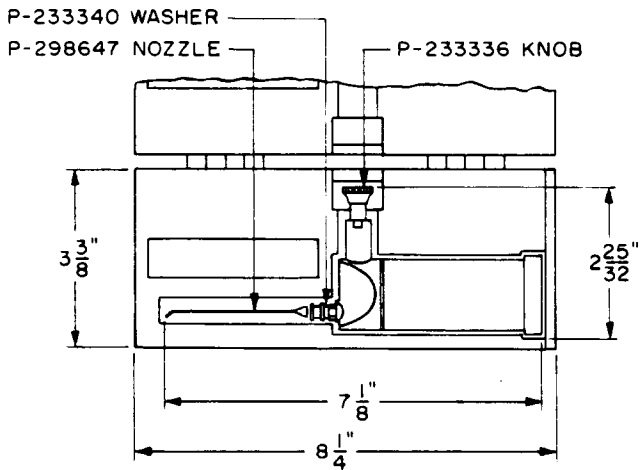

Fig. 4—552A Oil Gun
2.04 **552A Oil Gun:** The 552A oil gun (Fig. 4) is intended for use on the 1-type timers and reciprocating bar interrupters.